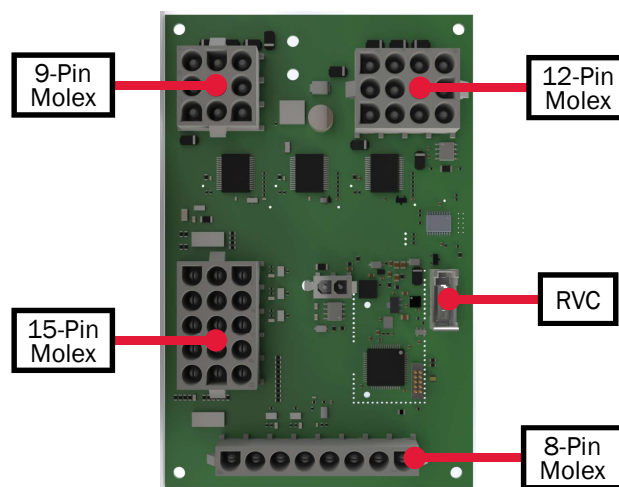

Figure 24
- Suggested disconnect order (see Figure 24):
- Ensure the controller is properly oriented - reference Figure 24.